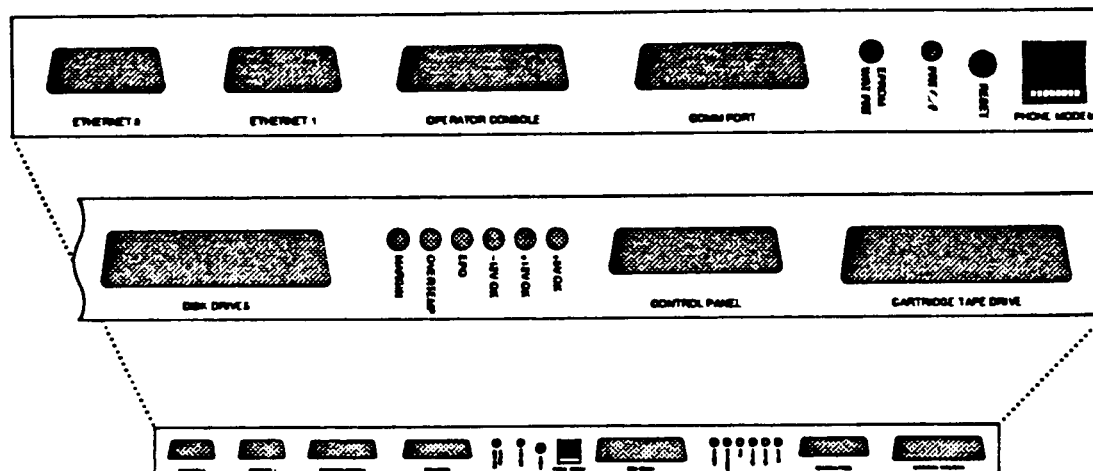

Figure 1.5 - RESHA Board Face Plate
- 2. From the front of the 400S cabinet, ensure that the following cables are connected at the RESHA board face plate: Refer to Figure 1.5 for connector location.
Note: At least one terminal is required to boot the Series 400S. The terminal must be an ANSI standard VT100 console and links to the Operator Console port (Refer to Figure 1.5). As Rational does not supply Rational terminals with the Series 400S, the customer should make sure an ANSI standard terminal is available at installation time.
- ☐ 2. Install the operator console cable in the connector marked "Operator Console". The connector is located on the RESHA face plate. (Refer to Figure 1.5). This cable should be routed down the outside edge of the disk housing, out the bottom of the cabinet, and fed through the raised-floor tile that has been cut out for terminal and network cables. Route the cable as directly as possible to where the operator console is to be located. Feed the end of this cable back up through the tile cutout nearest the operator console and connect it to the terminal.